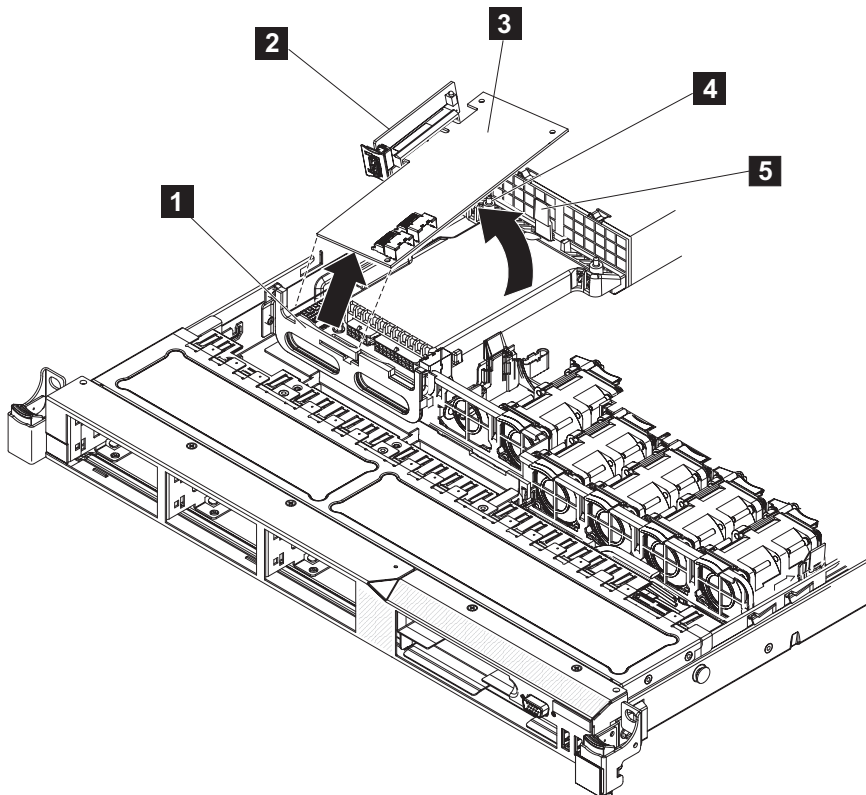

Figure 203. Disengaging the disk-controller front-retention bracket and removing the riser assembly and disk controller
11. Pull up on the disk controller (**3** in Figure 203 on page 206) until the disk-controller and USB riser-card assembly (**2**) disengages from the connector on the system board.